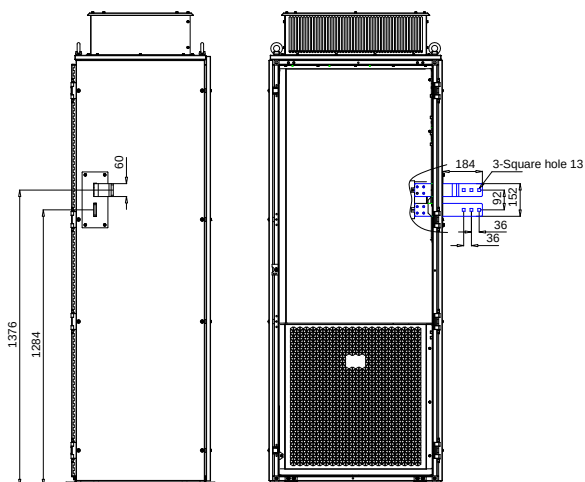

Figure 4-19 Mounting dimensions of adapter busbar (unit: mm)
- Step 1 Open the cabinet door and install the external braking unit adapter busbar as shown in Figure 4-19.